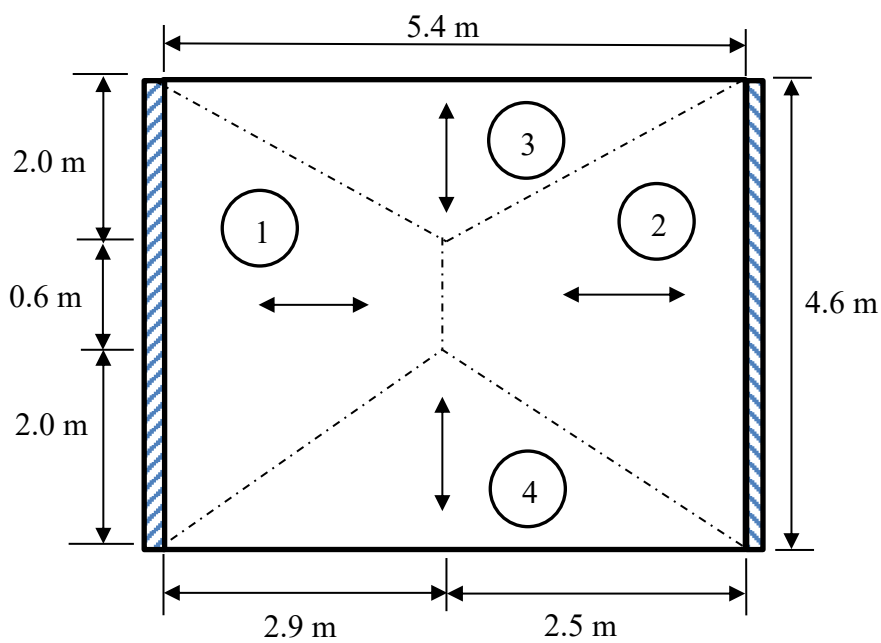

Figure 1
- (2). The slab in **Figure 1** is subjected to a load of 11 kN/m^2 . The left-hand edge is fixed, whereas the right-hand edge is elastically restrained so that the support moment is lower. Assume a non-symmetrical pattern of lines of zero shear force as shown in **Figure 1**. Calculate the design moments for elements 1, 2, 3, and 4 and draw the resultant distribution of design moments in the given slab. Use Hillerborg Strip method.